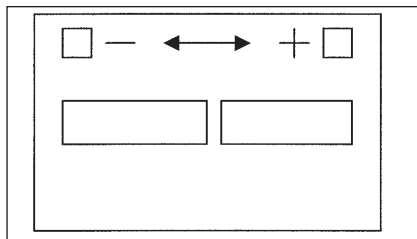

Figure 6
**CAUTION** Lawn & Garden batteries can come in two terminal configurations. The Positive (+) and Negative (-) terminals can be oriented so that they are +/- or -/+. See Figure 6. In the unlikely event that the battery terminals are unmarked, we recommend that you return the battery to the retailer for exchange for a properly marked battery or let an authorized service center install the battery for you. Failure to connect the battery properly can possibly cause bodily injury. In addition, extensive engine electrical damage not covered under warranty can result.